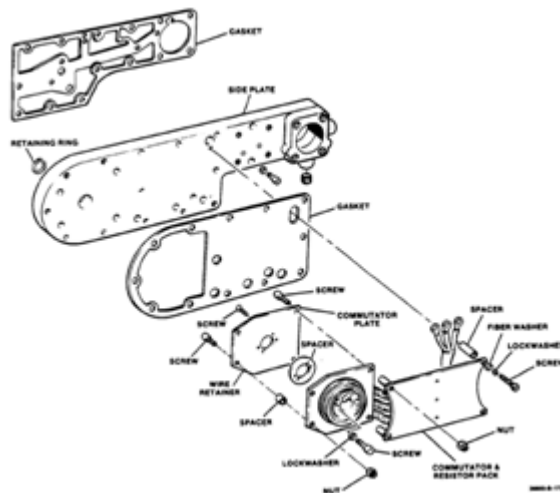

Figure 5-48. Resistor Pack and Side Plate Assembly
18. Attach resistor pack to side plate. First, use 2 screws through commutator, but do not tighten. Second, in order as shown on Figure 5-48, secure right-hand side of resistor pack to column. Tighten screws on left-hand side in commutator.